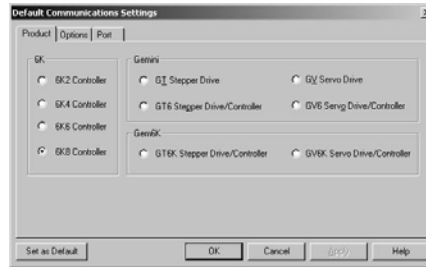

Figure 2-20: Selecting the Controller
4. On the **Product** tab, select the controller that you will use, as shown in Figure 2-20 on page 28.